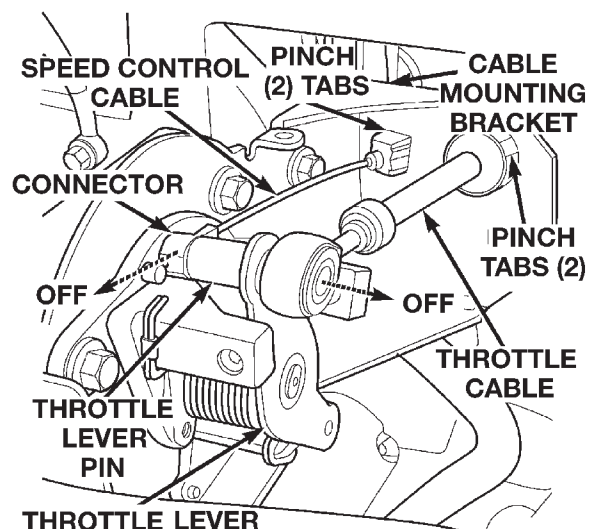
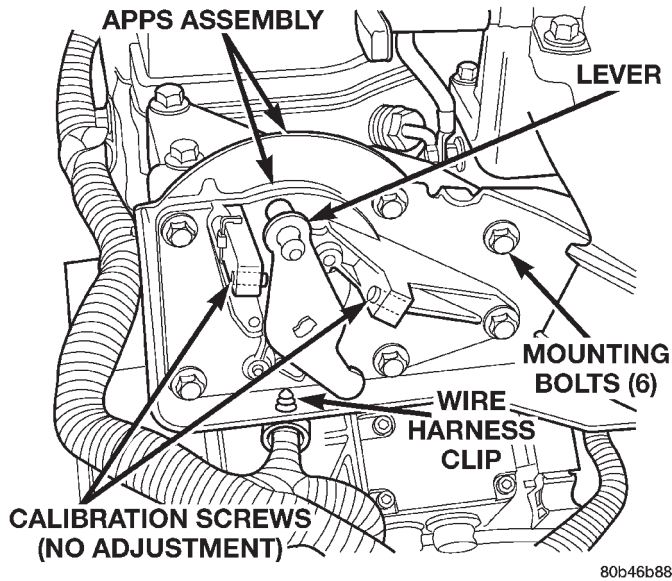
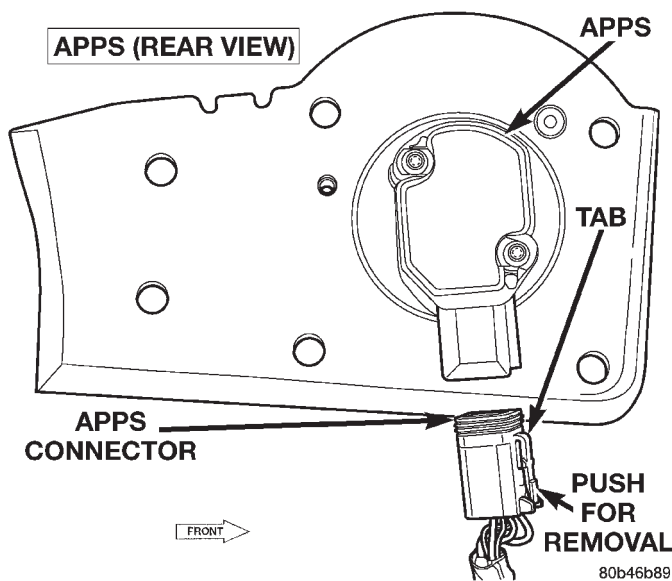

Fig. 21 Cables at Throttle Lever
Fig. 22 APPS Assembly
Fig. 23 Electrical Connector at Bottom of APPS
CAUTION: Do not attempt to remove sensor from its mounting bracket as electronic calibration will be destroyed (sensor-to-bracket mounting screws are permanently attached). Two accelerator lever set screws (Fig. 22) are used to position lever. Do not attempt to alter positions of these set screws as electronic calibration will be destroyed.
(3) Using finger pressure only, disconnect end of speed control servo cable from throttle lever pin by pulling forward on connector while holding lever rearward (Fig. 21). **DO NOT try to pull connector off perpendicular to lever pin. Connector will be broken.**
(4) Using two small screwdrivers, pry throttle cable connector socket from throttle lever ball (Fig. 21). **Be very careful not to bend throttle lever arm.**
(5) Disconnect transmission control cable at lever arm (if equipped). Refer to Group 21, Transmission.
(6) Squeeze pinch tabs on speed control cable (Fig. 21) and pull cable rearward to remove from cable mounting bracket.
(7) Squeeze pinch tabs on throttle cable (Fig. 21) and pull cable rearward to remove from cable mounting bracket.
(8) If equipped with an automatic transmission, refer to Group 21, Transmission for transmission control cable removal procedures.
(9) Disconnect wiring harness clip (Fig. 22) at bottom of bracket.
(10) Remove 6 mounting bolts (Fig. 22) and partially remove APPS assembly from engine. After assembly is partially removed, disconnect electrical connector from bottom of sensor by pushing on connector tab (Fig. 23).
(11) Remove APPS assembly from engine.
(1) Snap electrical connector into bottom of sensor.
(2) Position APPS assembly to engine and install 6 bolts. Tighten bolts to 12 N·m (105 in. lbs.) torque.
(3) Connect wiring harness clip (Fig. 22) at bottom of bracket.
(4) If equipped with an automatic transmission, refer to Group 21, Transmission for transmission control cable installation procedures.
(5) Install speed control cable into mounting bracket. Be sure pinch tabs (Fig. 21) have secured cable.
(6) Install throttle cable into mounting bracket. Be sure pinch tabs (Fig. 21) have secured cable.
(7) Connect throttle cable at lever (snaps on).
(8) Connect speed control cable to lever by pushing cable connector rearward onto lever pin while holding lever forward.
(9) Install cable cover.
(10) Connect both negative battery cables to both batteries.
(12) Use DRB scan tool to erase any DTC's from ECM/PCM.